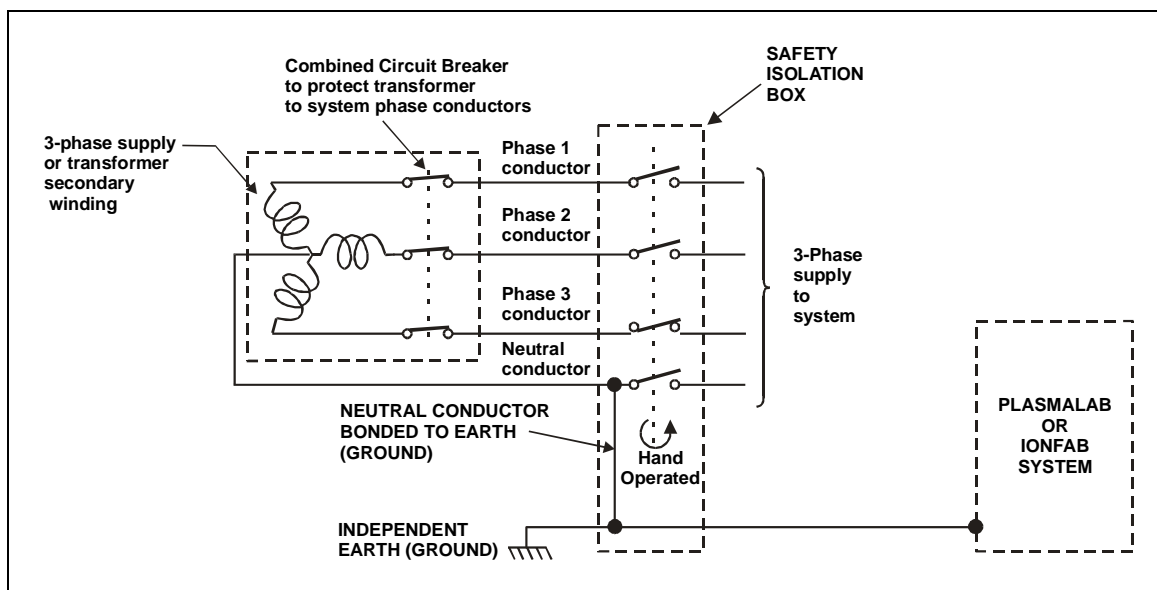

Fig 3.1: Recommended electrical installation
THE NEUTRAL CONDUCTOR MUST BE BONDED TO THE EARTH (GROUND) CONDUCTOR. IF THIS IS NOT DONE ALREADY IN THE FACTORY SUPPLY, THEN IT MUST BE DONE AT THE SAFETY ISOLATION BOX AS SHOWN IN Fig 3.1. IF AN ISOLATING TRANSFORMER IS FITTED, THEN THE NEUTRAL CONDUCTOR OF THE TRANSFORMER SECONDARY MUST BE BONDED TO THE EARTH (GROUND) CONDUCTOR.
• Safety Earthing:	The system safety earthing must be in accordance with local Electrical Regulations. See Fig 3.1.